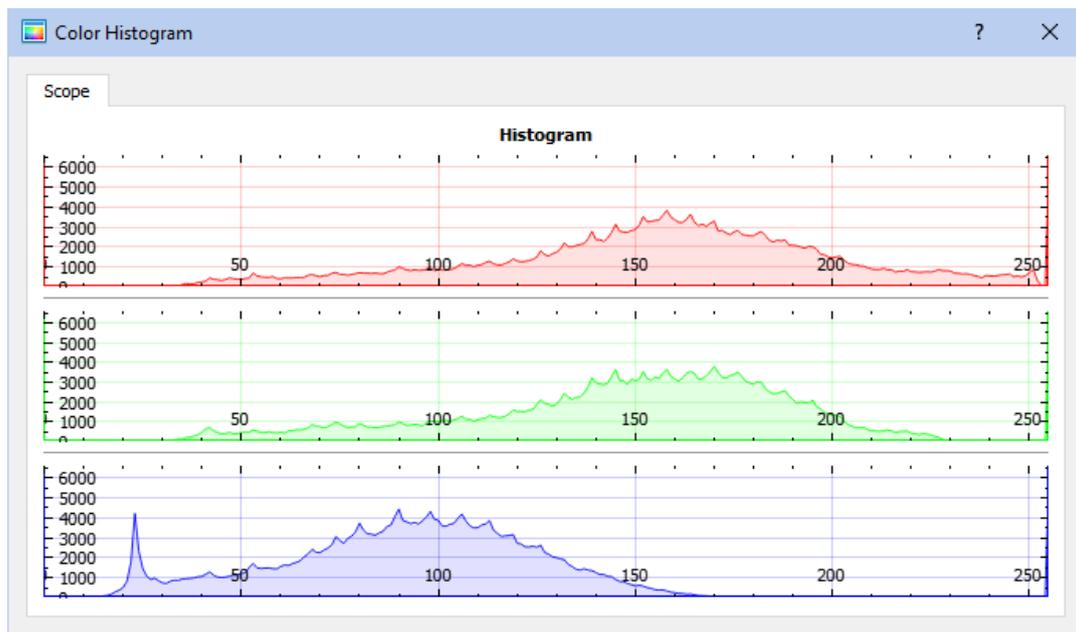

Figure 27 – Color Histogram window
- If the cameras were configured to an RGB mode, three histograms would be displayed, showing the color segmentation for each color (red, green, blue). An example is shown in Figure 27.